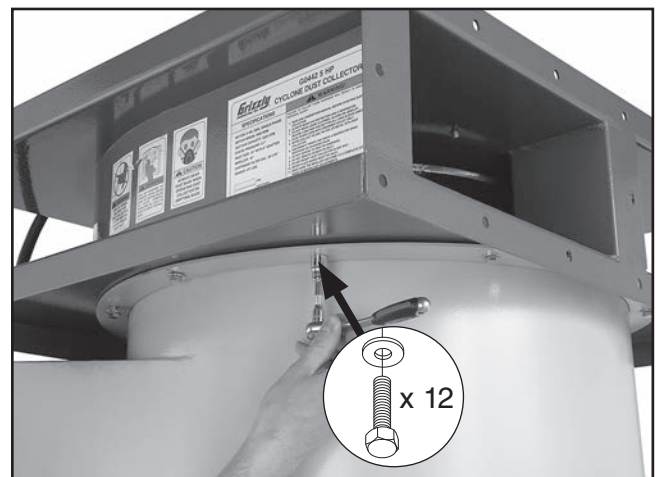

Figure 18. Securing intake barrel assembly to blower housing assembly.
17. Attach assemblies with (12) $\frac{5}{16}$ "-18 x $\frac{3}{4}$ " hex bolts and $\frac{5}{16}$ " flat washers (see **Figure 18**).